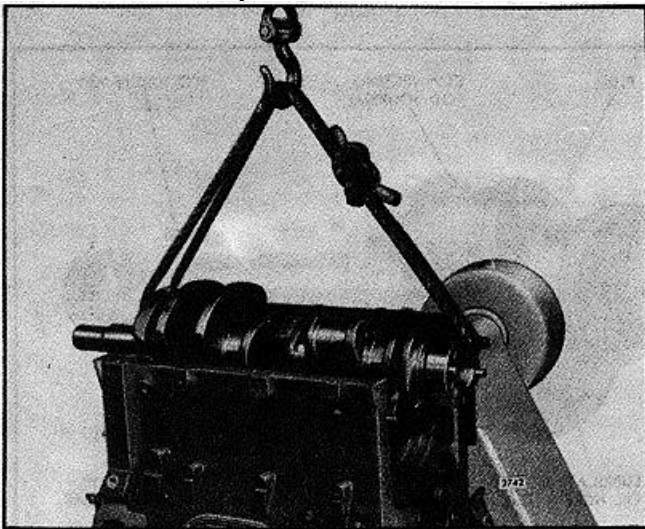

FIG. 2 Removing or installing Crankshaft
20. Remove the crankshaft, including the timing gear and oil pump drive gear (Fig. 2).